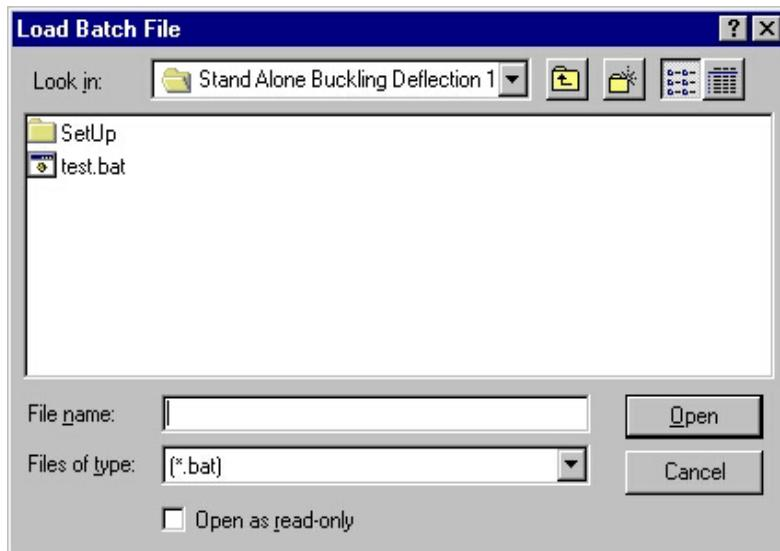

Figure 3.29. Load Batch File
3. After selecting the desired database, the user must now select and load a batch file (Figure 3.29) containing the names of the desired input files.
5. The name of the Plots window is the name of the batch file followed by the name of the input file (for Figure 3.29, it would be "testInput1.bmp", if the first input file was named "Input1.inp").
6. The name of the summary file is the name of the batch file followed by Summary.txt (for Figure 3.29, it would be "test Summary.txt").